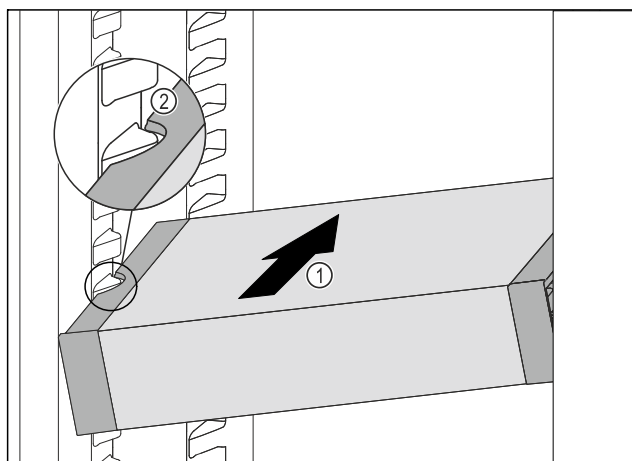

Fig. 122
- Insert the VarioSafe into the fridge section at an angle Fig. 122 (1) until the recesses in the side Fig. 122 (2) of the VarioSafe are at the level of the support rib in the fridge section.